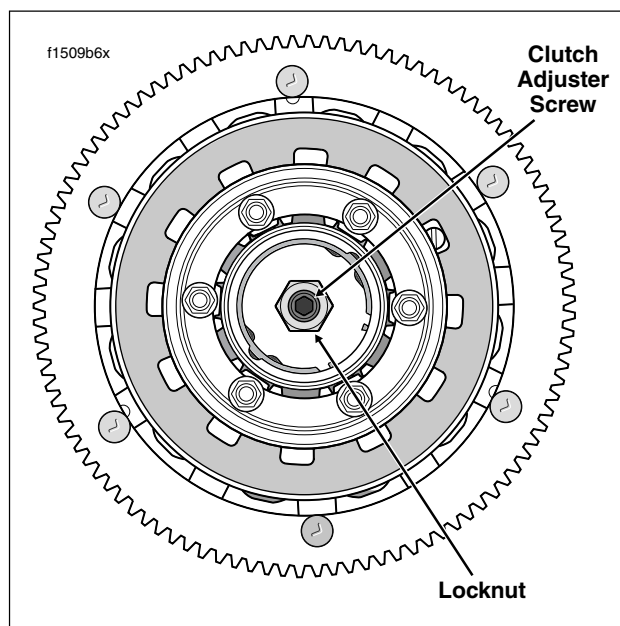

Figure 1-8. Clutch Assembly
- See Figure 1-8. Loosen locknut on clutch adjuster screw. To take up all free play in push rods, turn screw inward (clockwise) until lightly seated.